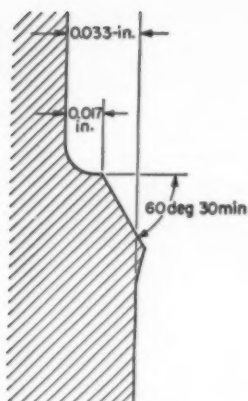

Fig. 3 — Magnified section profile of groove wall of test assembly in Fig. 2 after shear failure.
**Groove Wall Behavior:** But the most relevant information offered by the tests was on the behavior of the groove wall under ultimate load. Failure of the groove wall would normally be expected to occur at the inner, relatively sharp-cornered, edge by cracks or flaws induced by high stress concentration. However, under ultimate load, the groove wall sheared through on surfaces inclined at a certain angle  $\gamma$ , with failure starting inside the groove wall but at varying distances from the inner edge. Fig. 3 shows a magnified section profile of a sheared wall portion of the circular groove test assembly, Fig. 2. Material is 2024-T4 aluminum. Shear angle  $\gamma \approx 60$  deg.
If no internal friction existed,  $\gamma$  would be 45 deg. But this angle, as proved by many tests, exceeds 45 deg considerably (Fig. 3) due to the reinforcing influence of the internal friction of the groove material.